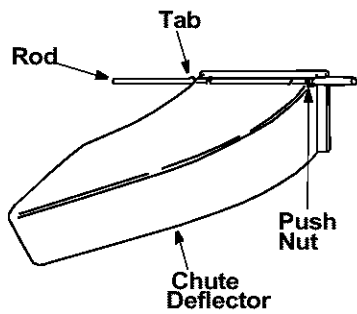

Figure 12
- Slide the rod into the upper edge of the chute deflector so the tab on the rod is toward the left side of the chute deflector. When assembled correctly, the rod will extend further to the left side. See Figure 12.